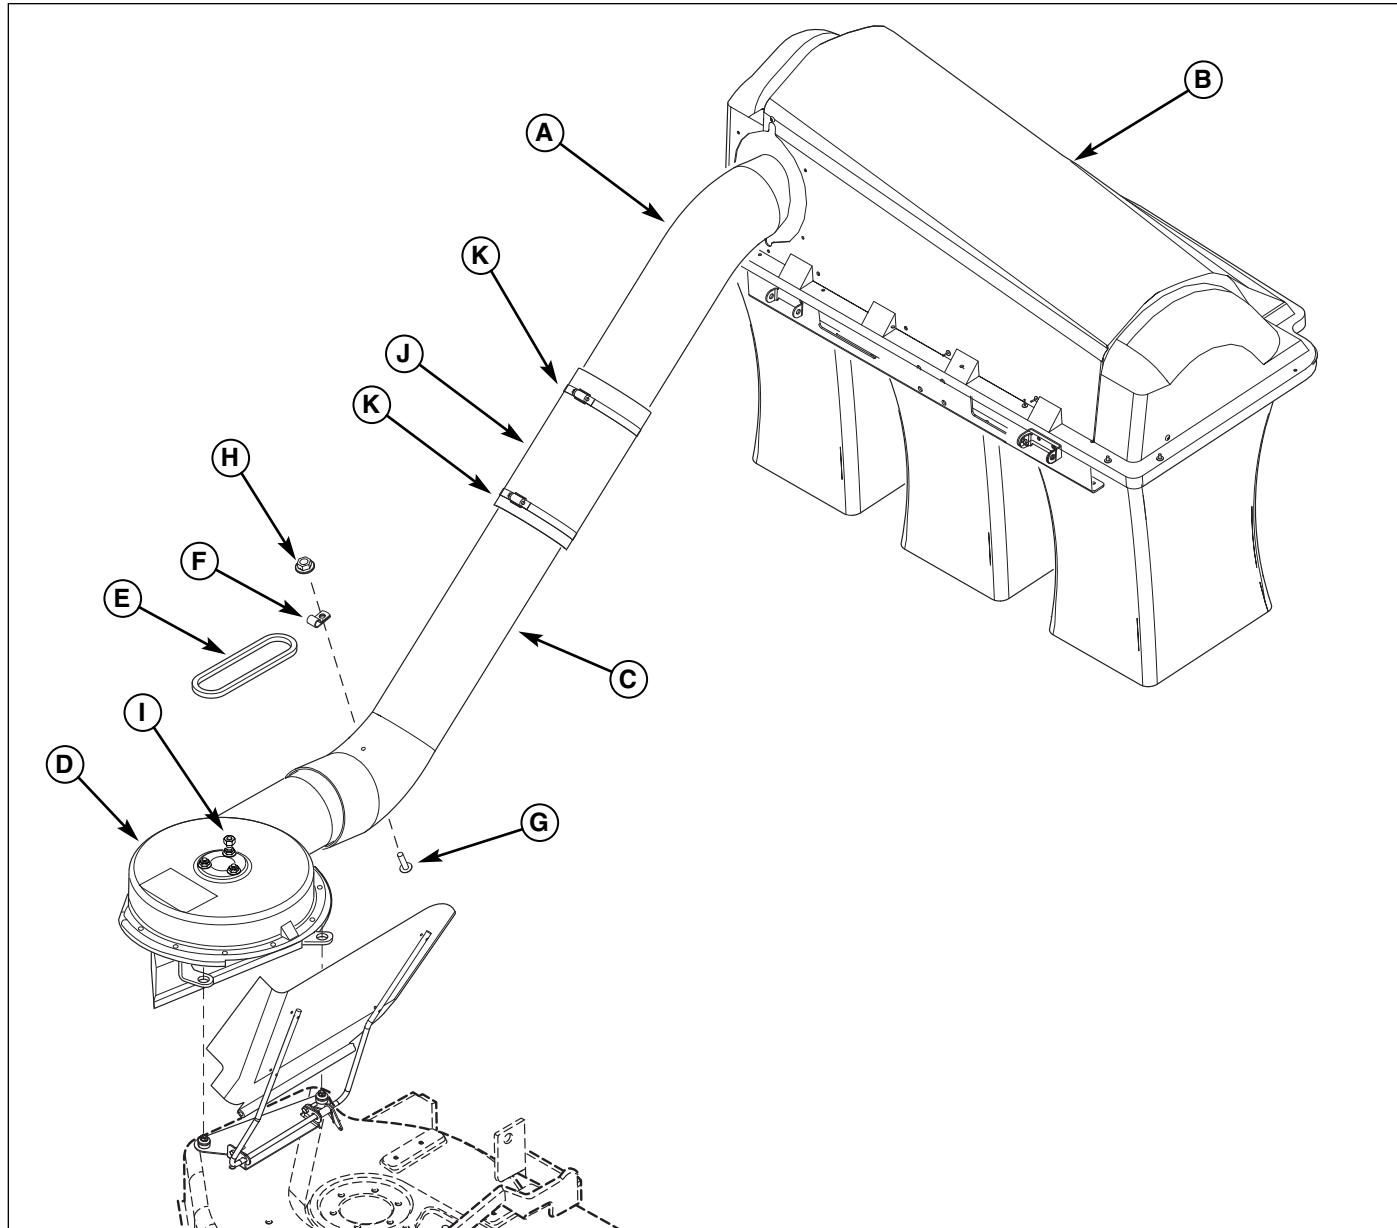

Figure 11. Connect Upper and Lower Tubes
1. Slide upper tube (A, Figure 11) into opening in collector cover (B).
2. Slide lower tube (C) over opening in turbo assembly (D).
3. Slip one end of rubber strap (E) through clamp (F) on lower tube.
4. Secure lower tube (C) with machine screw (G) and locknut (H).
5. Slip other end of rubber strap (E) over strap mount (I) on top of turbo blower.
6. Connect upper tube (A) and lower tube (C) using flexible hose (J) and hose clamps (K).